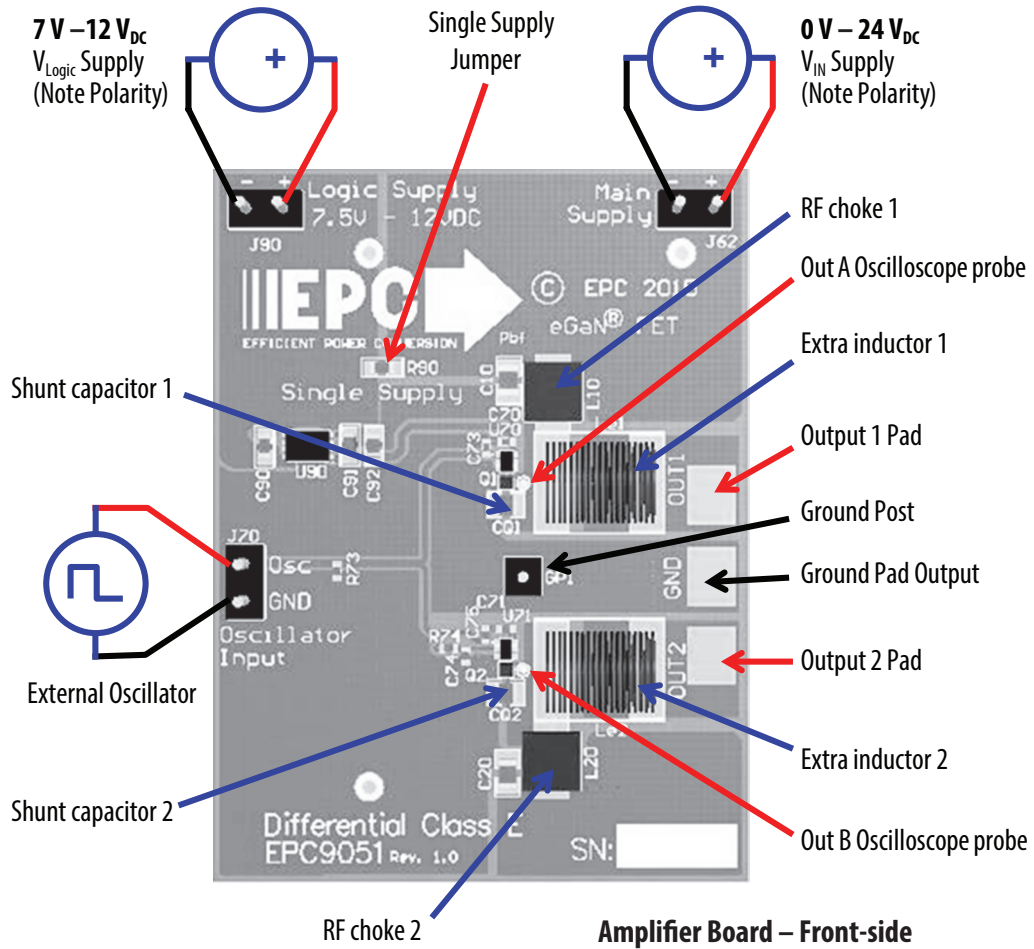

Figure 5: Proper connection and measurement setup for the amplifier board.
2. With power **off**, connect the **main** input power supply bus to J62 as shown in figure 5. Note the polarity of the supply connector. Set the voltage to 0 V.
3. With power **off**, connect the **logic** input power supply bus to J90 as shown in figure 5. Note the polarity of the supply connector. Set the voltage to between 7 V and 12 V.
**NOTE.** When measuring the high frequency content switch-node, care must be taken to avoid long ground leads. An oscilloscope probe connection (preferred method) has been built into the board to simplify the measurement of the Drain-Source Voltage (shown in figure 5 and figure 6). The choice of oscilloscope probe needs to consider tip capacitance where this will appear in parallel with the shunt capacitance thereby altering the operating point of the amplifier.